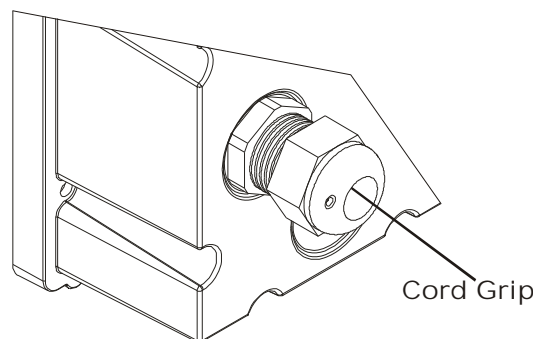

FIG. 86: CORD GRIP INSTALLED
- Screw the Hex Nut onto the threaded end of the Cord Grip Assembly until it is finger tight and the cord grip assembly is flush against the outside surface of the rear cover. (See Fig. 86)